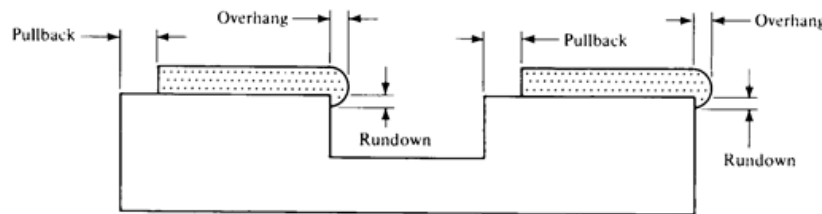

Figure 2
3.1.8 *pullback* — defines a dimension covering the linear distance between the edge of the ceramic and the first measurable glass interface excluding any glass spatter (refer to Figure 2).
3.1.9 *rundown* — vertical extension of glass from the ceramic (refer to Figure 2).